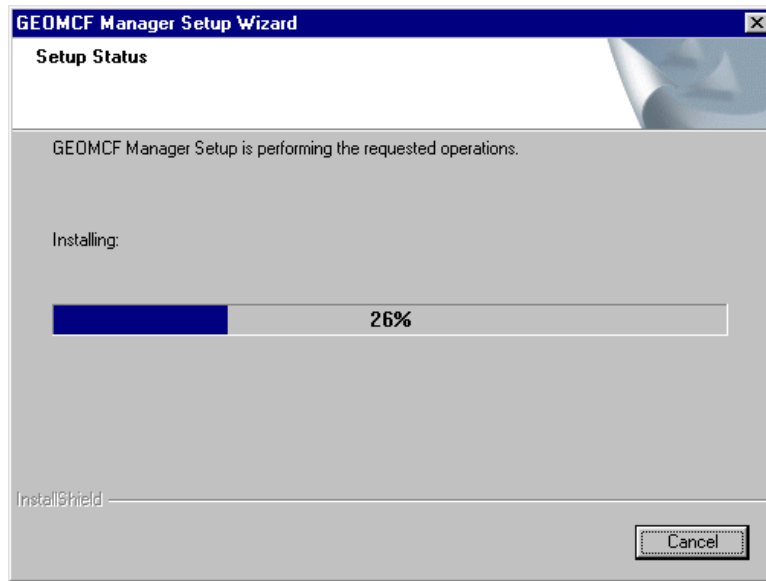

Figure 1-15
- After Microsoft® XML Parser is installed, the **GEOMCF Manager Setup Wizard** displays the “Setup Status” window as the files are loaded (figure 1-15).